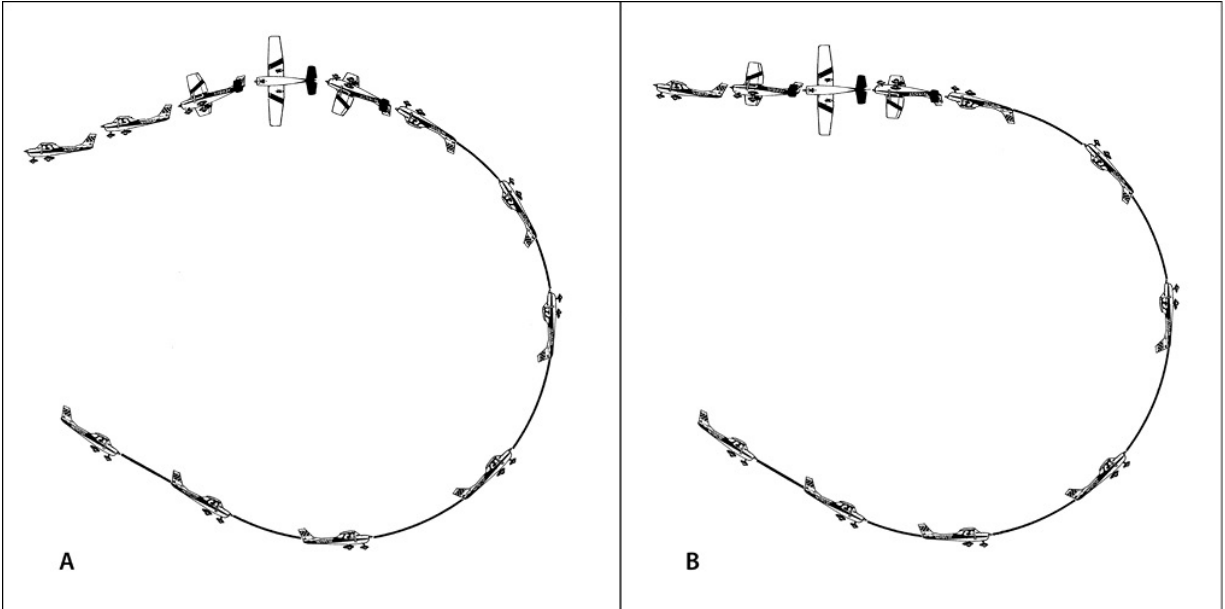

Figure 5-17. Immelmann roll-outs. **(A)** Aileron half roll. **(B)** On-point half roll.
2. As the airplane approaches the inverted position (nose about 15° above the horizon), use forward pressure to stop the loop and use left aileron and right rudder as necessary to keep the nose on the point. As the bank becomes vertical, apply rudder *with* the ailerons. Increase the rudder deflection and/or apply back pressure as the roll is completed. This procedure may give you a little more “lightness” on top and some engine hesitation as compared to (1). More about this in the sections on applying the coordination exercise to the Cuban eight and Immelmann. A comparison of techniques (1) and (2) is shown in Figure 5-17. A roll to the left is easier for the Aerobat and most lower-powered U.S. airplanes, but after a while you might want to try some right rolls.
Figure 5-17 compares the two types of rolls at the top of the Immelmann.